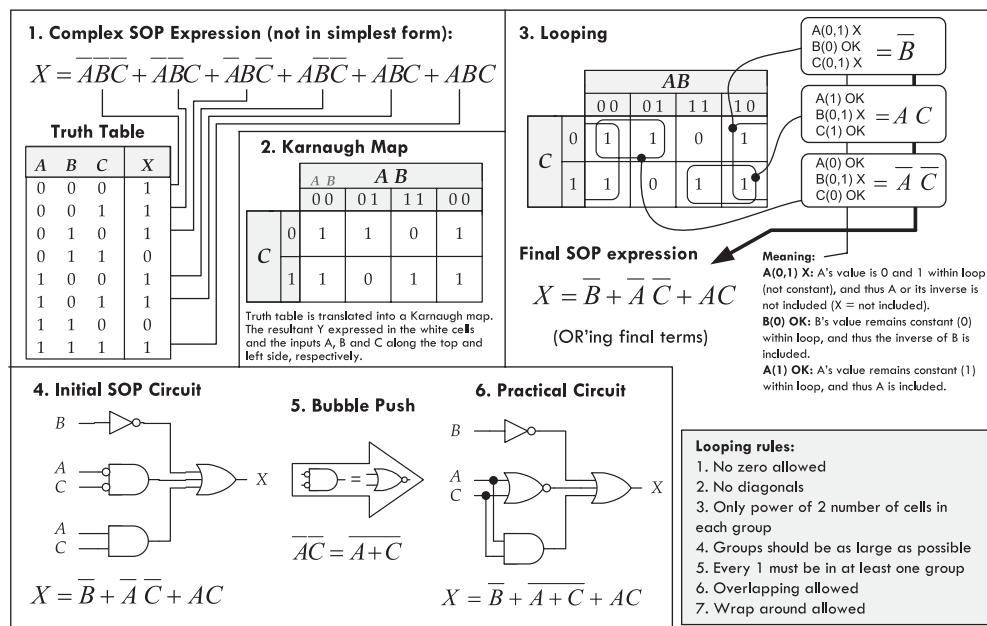

FIGURE 12.27
1. Select a desired truth table. Let's choose the one shown in Fig. 12.27. (If you have a Boolean expression, transform it into an SOP expression and use the SOP expression to create the truth table.)
2. Translate the truth table into a Karnaugh map. A Karnaugh map is similar to a truth table but has its variables represented along two axes. Translating the truth table into a Karnaugh map reduces the number of 1s and 0s needed to present the information. Figure 12.27 shows how the translation is carried out.
4. Identify the variable that remain constant within each loop, and write out an SOP equation by OR'ing these variables together. Here, constant means that a variable and its inverse are not present together within the loop. For example, in Figure 12.27 section 3, the loop that contains four 1s is reduced to  $\bar{B}$  because  $B = 0$  throughout the loop, while  $A$  and  $B$  aren't constant because they take on values of 0 and 1 throughout that loop. (If a variable is constant 0, the final expression is the inverse of that variable; if the variable is constant 1 throughout the loop, the final expression is the non-inverted variable.)
5. The SOP expression you end up with is the simplest possible expression. With it, you can create your logic circuit. You may need to apply some bubble pushing to make the final circuit practical, as shown in Fig. 12.27.